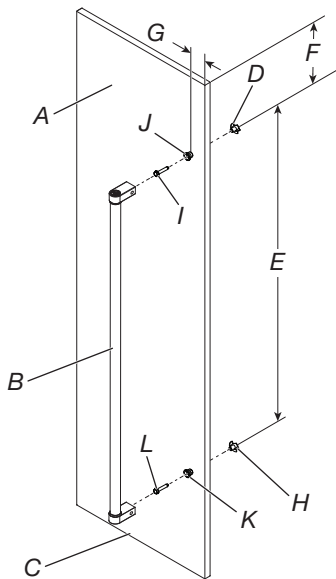

Figure 1 - Refrigerator Door
- For model specific hole locations and the spacing requirements of KitchenAid handle mounting, refer Figure 1 and Figure 2.
NOTE: Figure 1 represents a (left-hinge) refrigerator door panel. Mirror the hole pattern around the vertical centerline for a left-hinge refrigerator door panel.
1. Measure 'F' from the top of the panel, measure 'G' from side of panel. Mark the hole locations as shown in Figure 1.
2. Drill a 5/16" hole in the 2 locations shown in Figure 1.
3. Locate supplied Screw and Handle Mount on the front side of the Panel, and attach the 3 prong tee nut to the back side of the Panel in the orientation and in the 2 locations shown in Figure 1. Tighten until 3 prong nut is fully seated but do not over-tighten.
4. Place the Handle on the front of the panel as shown in Figure 1 and tighten the set screws located on the Handle Assembly using the Hex key provided.